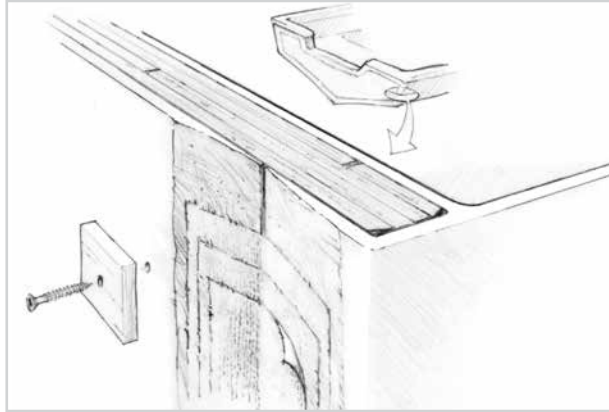

Figure 5-11 Grind a minimum 12-to-1 bevel on both sides of the joint. Laminate a repair patch over the joint to restore skin continuity.
4. Grind a minimum 12-to-1 bevel on both sides of the joint. The outside edge of the bevel should be short of the corner, as described earlier in Section 5.3.1—Planning the repair. Laminate a repair patch over the joint to restore skin continuity (Figure 5-11). The bevel will provide a recessed bonding area for the application of fiberglass fabric and allow the patch to be faired flush with the surface. The procedure for patching the joint are the same as repairing damaged skins. Follow the procedure described in Section 4.3. Limit the patch and finishing to the transom side of the corners.